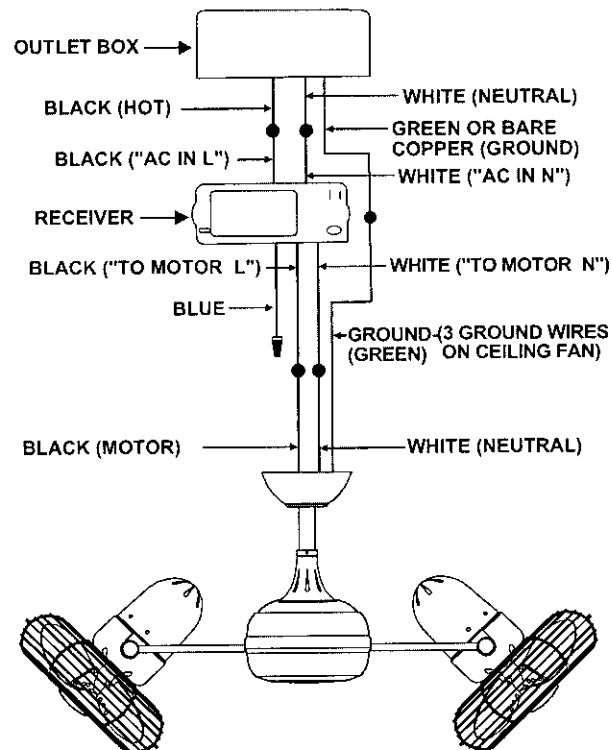

Figure 12
2. Motor to Receiver Electrical Connections: Connect the WHITE wire from the fan to the WHITE wire marked "TO MOTOR N" from the Receiver. Connect the BLACK wire from the fan to the BLACK wire marked "TO MOTOR L" from the Receiver. Proceed to secure all wire connections with the plastic wire nuts provided. Dagny has no light, so the blue receiver "light" wire must be capped off to avoid electrical shock. (Fig. 12)
3. Receiver to House Supply Wires Electrical Connections: Connect the WHITE wire (Neutral) from the outlet box to the WHITE wire marked "AC in N" from the receiver. Connect the BLACK wire (Hot) from the outlet box to the BLACK wire marked "AC in L" from the receiver. Secure all wire connections with the plastic wire nuts provided. (Fig. 12)
4. If your outlet box has a GROUND wire (Green or Bare Copper) connect this wire to the Hanger Ball and Hanger Bracket Ground wires. If your outlet box does not have a Ground Wire, then connect the Hanger Ball and Hanger Bracket Ground Wires together. Secure wire connection with the plastic wire nut provided. (Fig. 12)